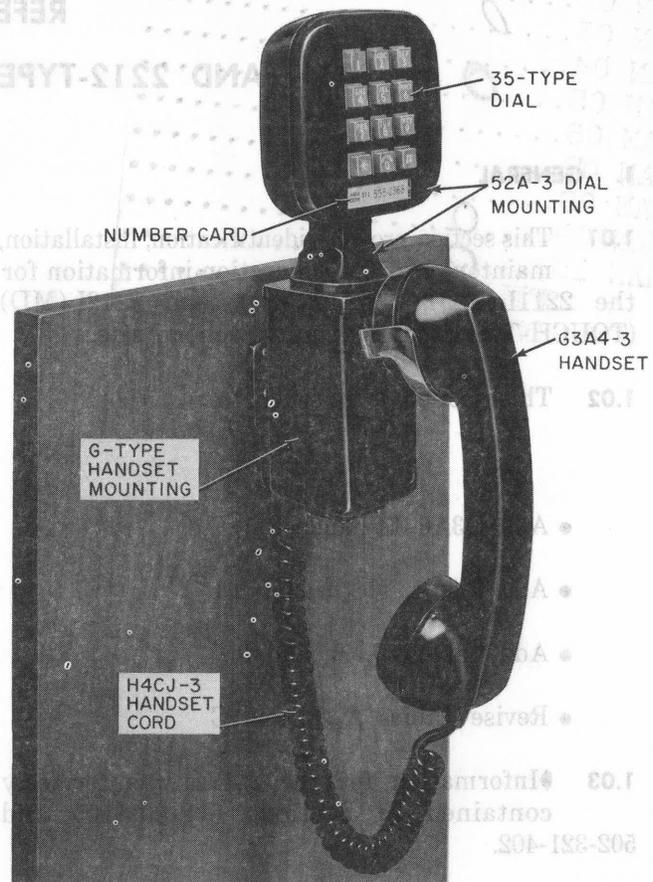

Fig. 4—2211- and 2212-Type Hand Telephone Set
(1) To remove faceplate, remove screw at the top of dial mounting, release tab and remove faceplate (Fig. 4).
(2) Replace dial.
(3) To restore faceplate, insert the two tabs on bottom of faceplate in notches and replace screw removed in (1).